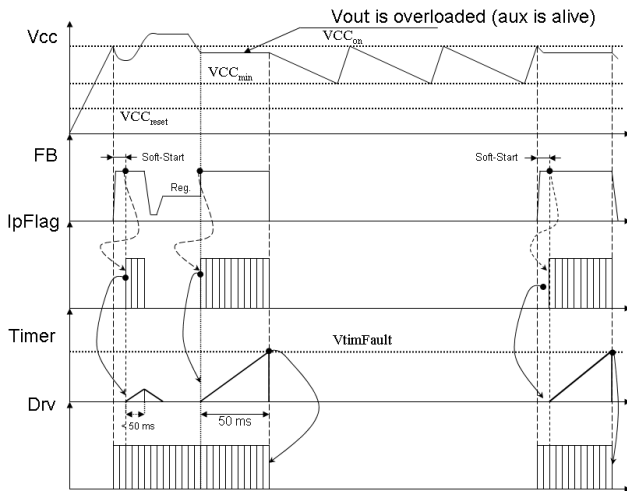
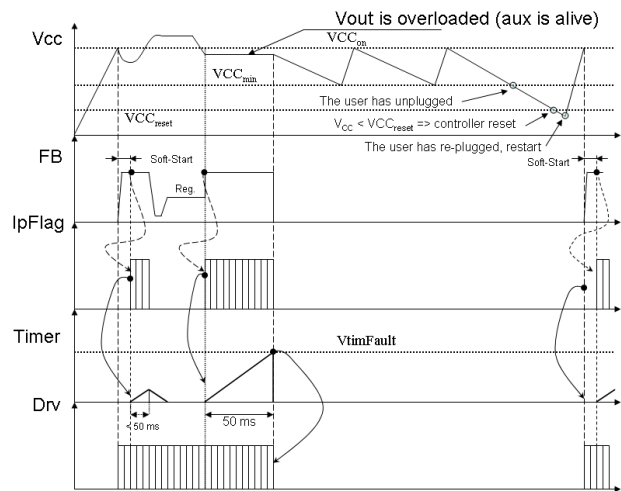

Figure 21. Short-Circuit Case Where Vaux Does NOT Collapse on Version B
Figure 22. Short-Circuit Case Where Vaux Does NOT Collapse on Version A
2. In the second case, the converter operates in regulation, but the output is severely overloaded. However, due to the bad coupling between the power and the auxiliary windings, the controller V_{CC} does not go low. The peak current is pushed to the maximum, the error flag IpFlag is consequently asserted and the timer starts to count. Upon completion, all pulses are stopped and triple-startup hiccup mode is entered for version B. If the fault goes away, the SMPS resumes operation (Figure 21). For version A, when the timer finishes counting, the pulses stop and the circuit stays latched until the user cycles down the power supply (Figure 22).